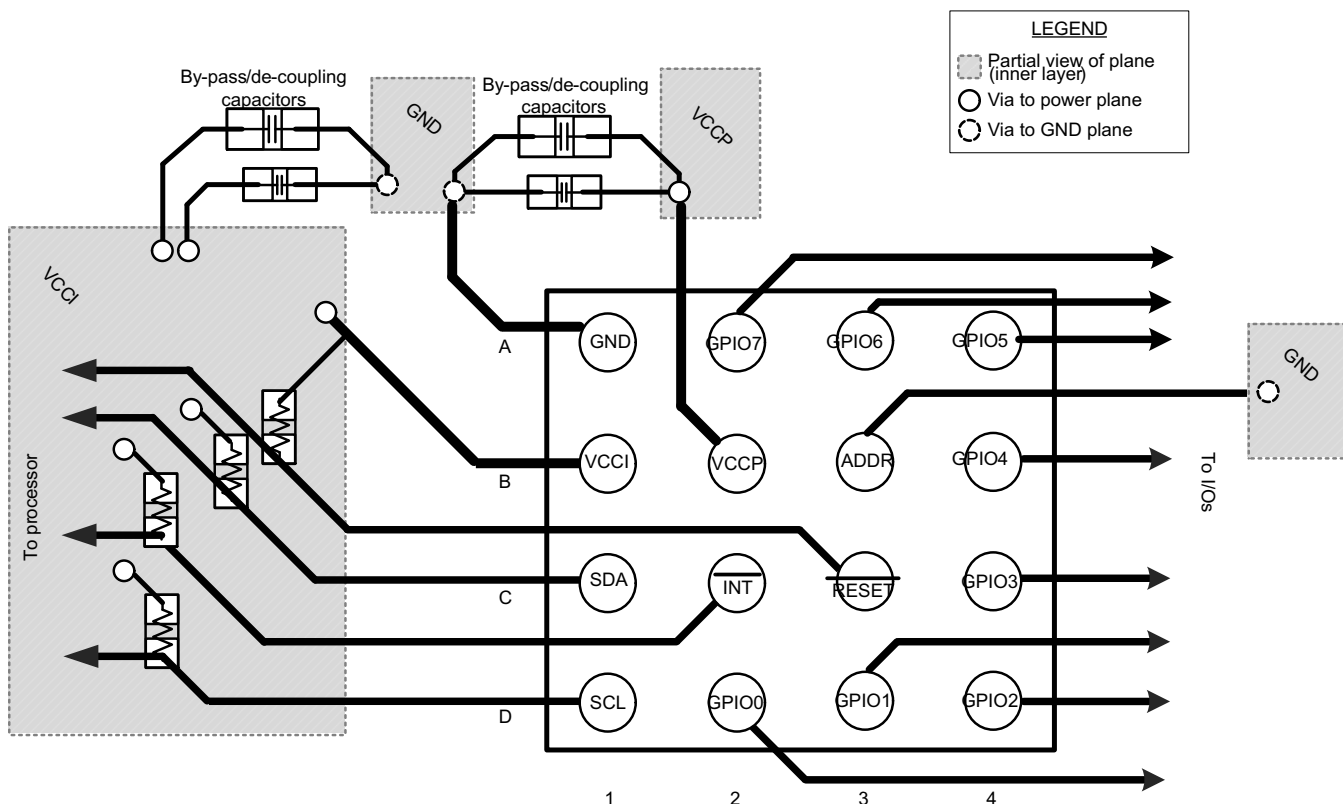

Figure 23. TCA7408 Layout Example
In all PCB layouts, it is a best practice to avoid right angles in signal traces, to fan out signal traces away from each other upon leaving the vicinity of an integrated circuit (IC), and to use thicker trace widths to carry higher amounts of current that commonly pass through power and ground traces. By-pass and de-coupling capacitors are commonly used to control the voltage on the VCCI and VCCP pins, using a larger capacitor to provide additional power in the event of a short power supply glitch and a smaller capacitor to filter out high-frequency ripple. These capacitors should be placed as close to the TCA7408 as possible. These best practices are shown in Figure 23.
For the layout example provided in Figure 23, it would be possible to fabricate a PCB with only 2 layers by using the top layer for signal routing and the bottom layer as a split plane for power (VCCI, VCCP) and ground (GND); however, a 4 layer board is preferable for boards with higher density signal routing. On a 4 layer PCB, it is common to route signals on the top and bottom layer, dedicate one internal layer to a ground plane, and dedicate the other internal layer to a power plane. In a board layout using planes or split planes for power and ground, vias are placed directly next to the surface mount component pad which needs to attach to V_{CC} or GND and the via is connected electrically to the internal layer or the other side of the board. Vias are also used when a signal trace needs to be routed to the opposite side of the board, but this technique is not demonstrated in Figure 23.